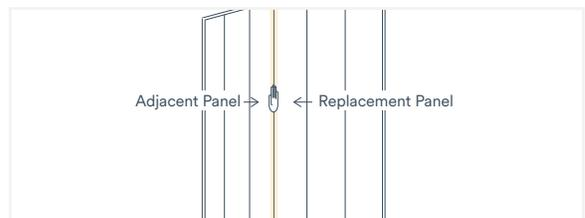

Fig. 48
10. Apply moderate uniform pressure along the seam of the replacement panel and the adjacent panel where the silicone was used to ensure best adhesion (Fig.48). If using a backer, apply the same pressure across the face of the replacement panel as well. Wipe away any excess silicone from the joint to complete the installation.